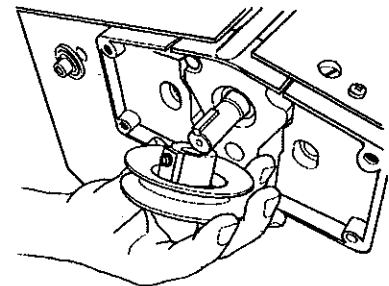

Fig. 31
39. Use a 5/32" Allen wrench to loosen the setscrew in the smaller 3" pulley. Insert the cutterhead motor's drive shaft through the pulley's hole. Line up the pulley setscrew on the key. See Fig. 31.